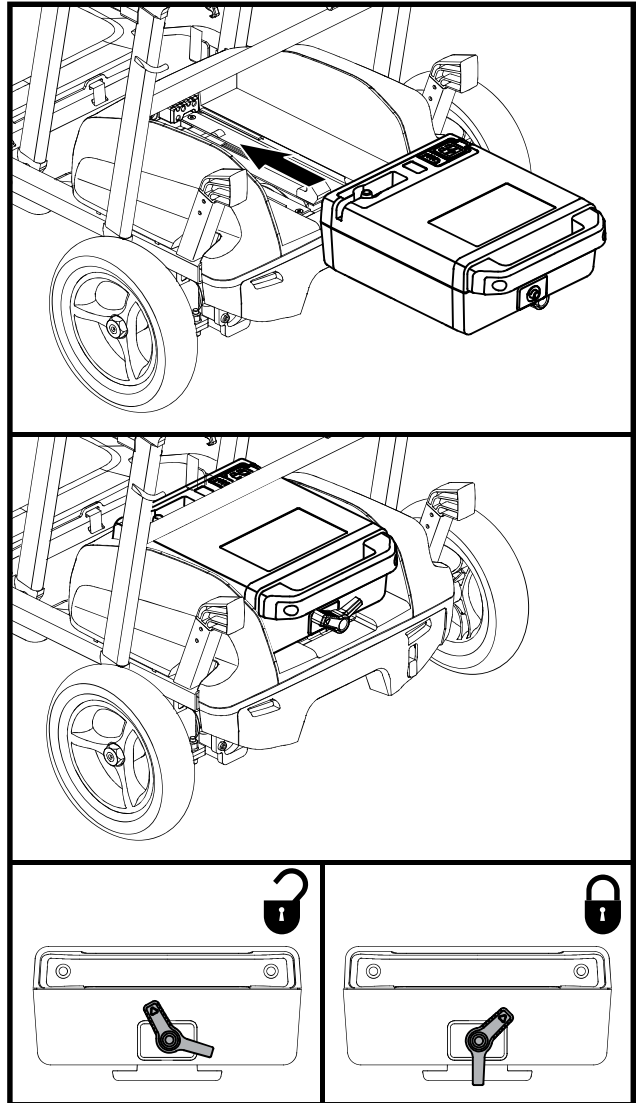

Figure 11. Battery Removal/Installation
To remove/install the battery pack, see figure 11:
2. Install the battery if necessary. **See figure 11.**